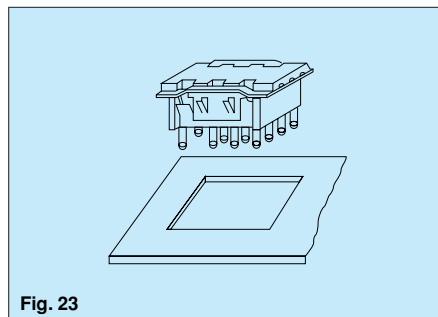

Fig. 23
• The reversible terminal sockets (HC, HL socket) are for one-touch mounting. (A panel thickness of 1 to 2mm .039 to .079 inch should be used.) (Fig. 23)